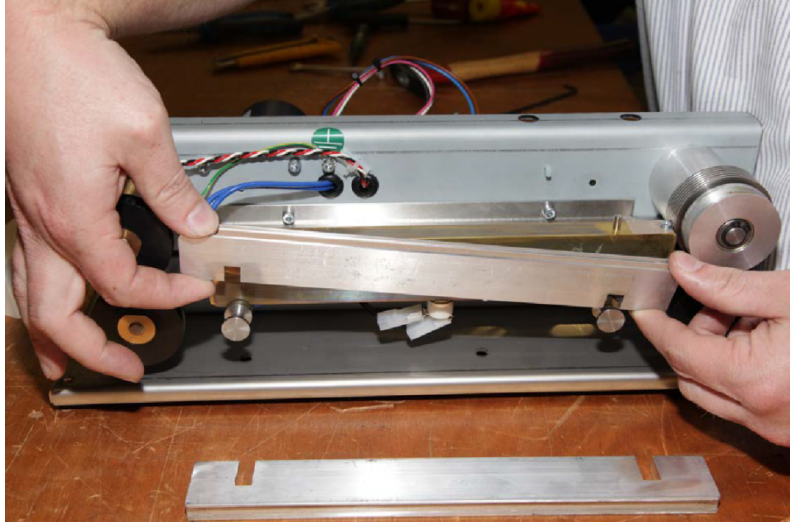

Figure 29
29. Screw the aluminum feed through the bars. **Fig. 29**